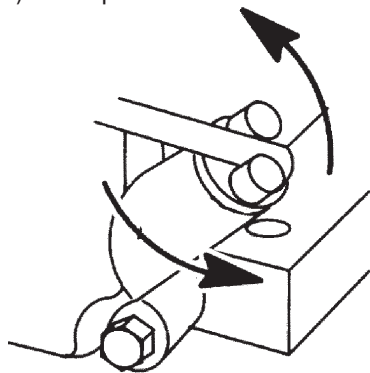

Figure 15. Engine Oil Dipstick (Removal)
2. Remove the filler dipstick from the engine oil filler hole (Figure 15) and wipe clean.